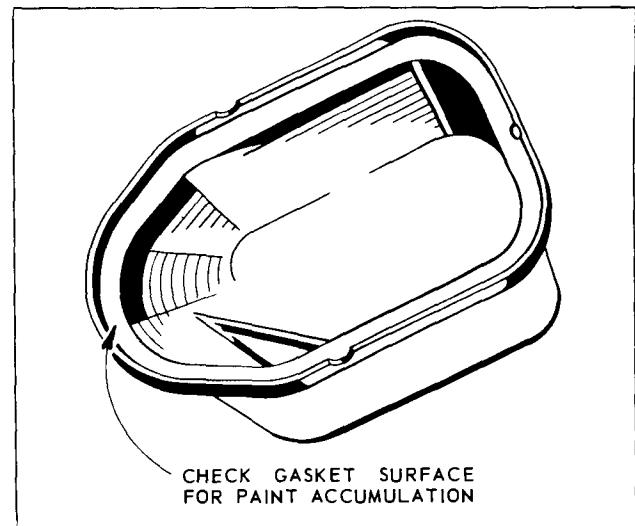

Fig. 15
#### ROCKER ARM COVERS (Fig. 15)
1. Check gasket face surface of rocker arm cover, at the rounded end, for paint accumulation, see Fig. 15. Scrape off any paint that forms a hump. Smooth scraped area with emery cloth or steel wool.